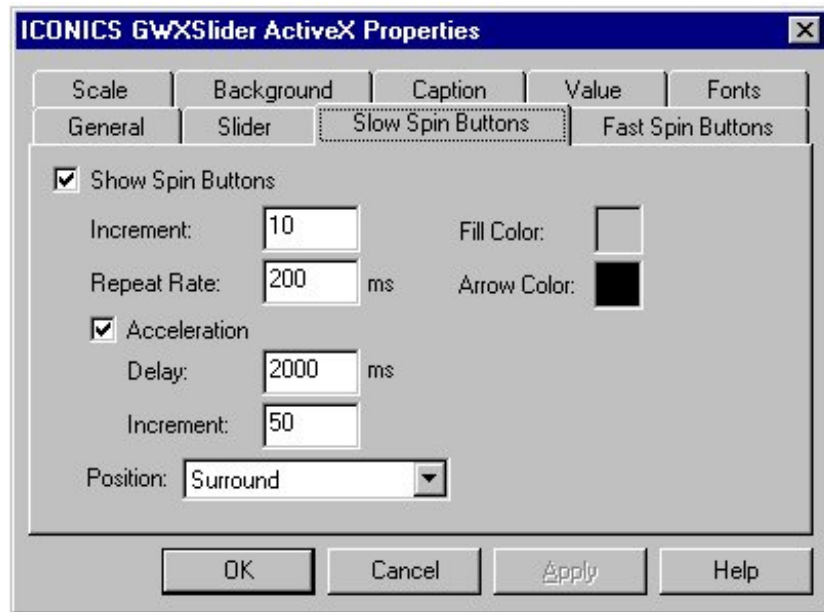

Figure 17-6: GWXSlider ActiveX Properties Dialog Box: Slow Spin Buttons Tab
2. Select Slow Spin Buttons tab (Figure 17-6).